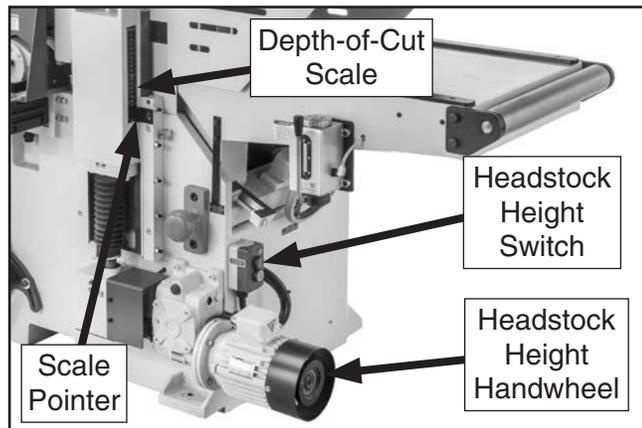

Figure 43. Front headstock height switch and depth-of-cut scale.
- Use the headstock height switches (see **Figures 43–44**) and the depth-of-cut scales (see **Figures 43–44**) to set a final workpiece thickness.
Note: Alternatively, use the headstock height handwheel (see **Figure 43**) to precisely set depth of cut in 0.1mm/0.004 in. increments.